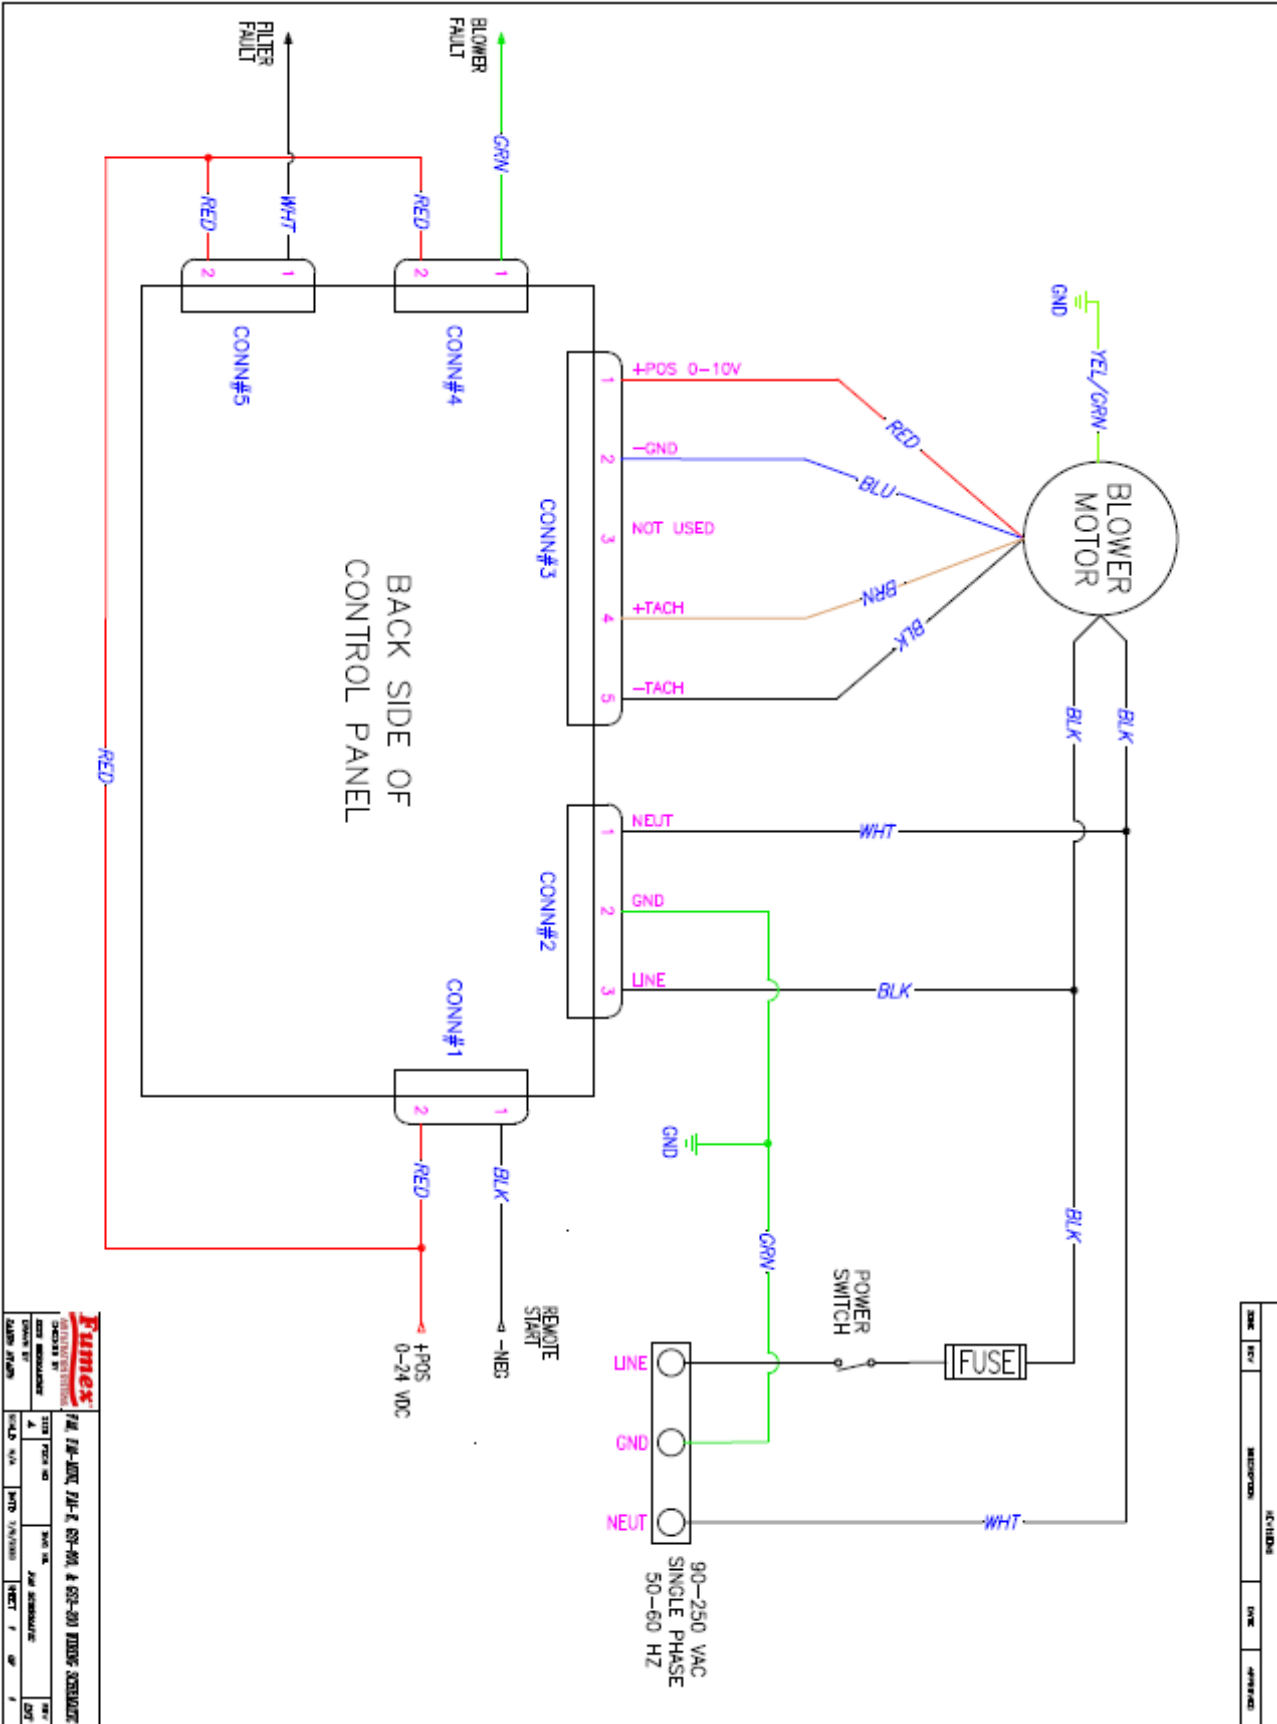

Figure 1
The FA1-Mini can be supplied with an optional interface package providing remote start/stop and filter monitoring capabilities (Part # FA228). Please see instructions below for Relay Activation/De-Activation procedures and refer to the drawing in Figure 1 for remote connections.
3. Locate relay activation switch on the rear of the control panel as shown in Figure 1.